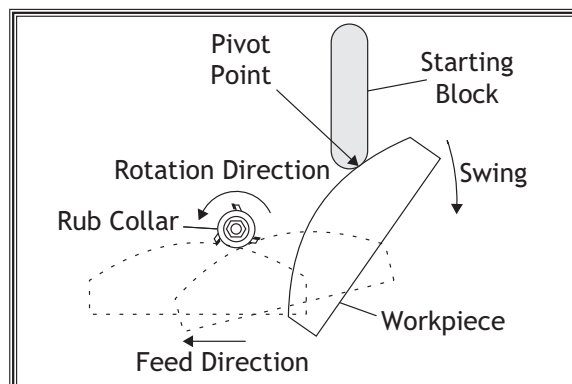

Figure 43. Feeding technique when using a starting pin.
Freehand shaping is shaping without using the fence. A rub collar is used to control the depth of cut and support the workpiece while cutting. A piece of wood is clamped to the table to be used as a "starting block." The block supports the workpiece while you slowly pivot the workpiece into the cutter at the beginning of the cut (see **Figure 43**). It is important to never start cutting at the corner of workpiece or kickback may occur—even with the support of a starting block.
3. Clamp the starting block to the table in a position that allows you to feed the workpiece into and against the rotation of the cutter (see **Figure 43**).